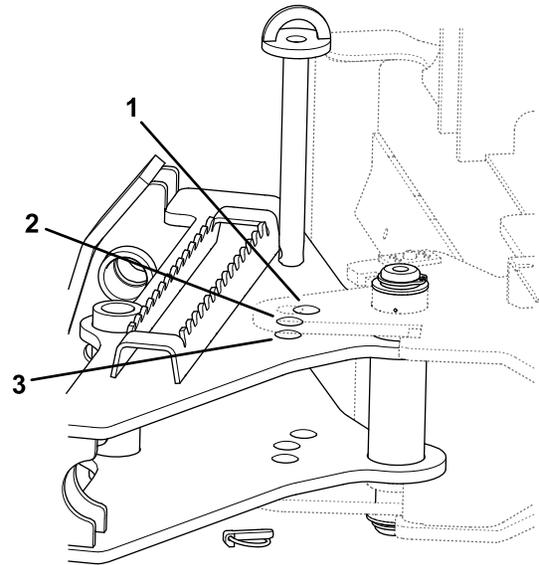

Figure 8
- Secure the rake by installing the angle pin in the corresponding location as shown in Figure 8. Install the lynch pin.